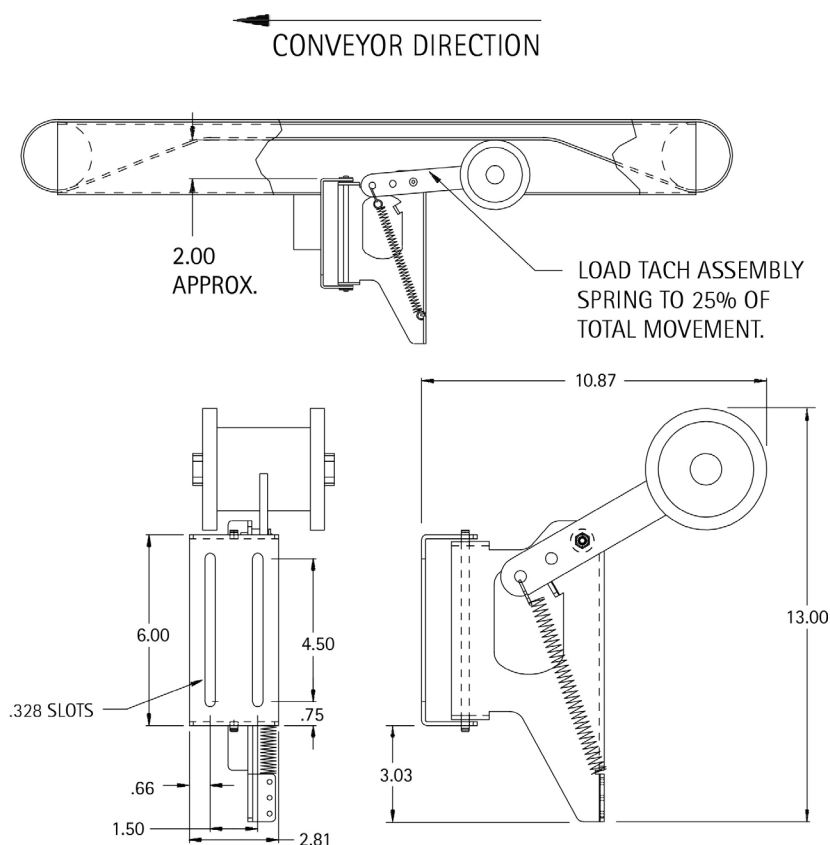

Figure 3-15: Tachometer Mounting Kit Installation
- Make sure the tach assembly angles in the same direction that the underside of the conveyor travels, as shown in *Figure 3-15*.
- Use the general mounting kit (1000020567, see *Figure 3-15*) to make tachometer mounting and setup easier. The extrusion mounting kit (1000020568) is the same as shown here, but also includes mounting hardware for attaching to Accu-Sort mounting structures.